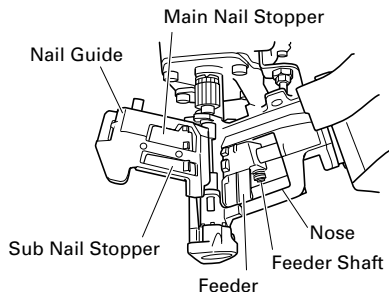

Fig. 14
- (2) Open the nail guide and remove dust, etc., as shown in Fig. 14. Apply lubricant to the sliding groove of the feeder and feeder shaft. Check the main nail stopper and sub nail stopper slide smoothly by pushing them with your finger.